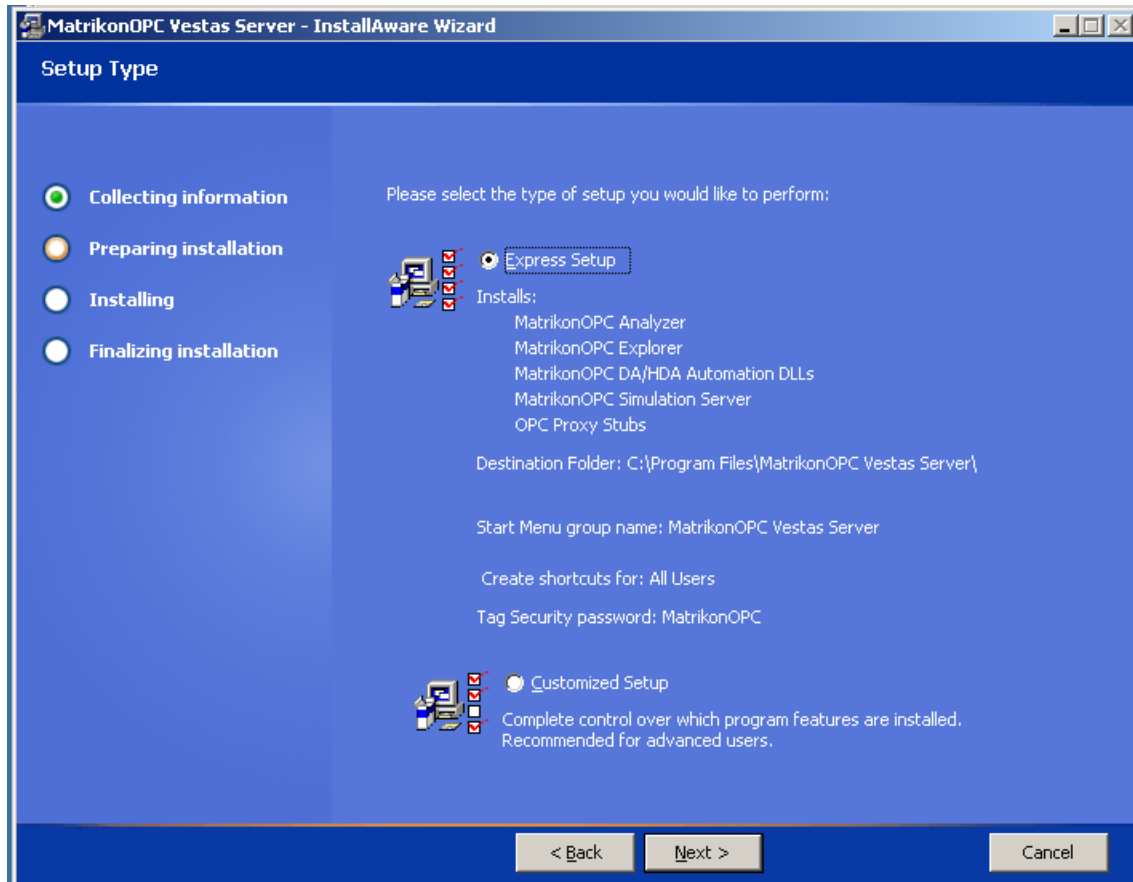

Figure 91 - Setup Type Screen
8. Click on the **Next** button. The **Setup Type** screen (Figure 91) appears.